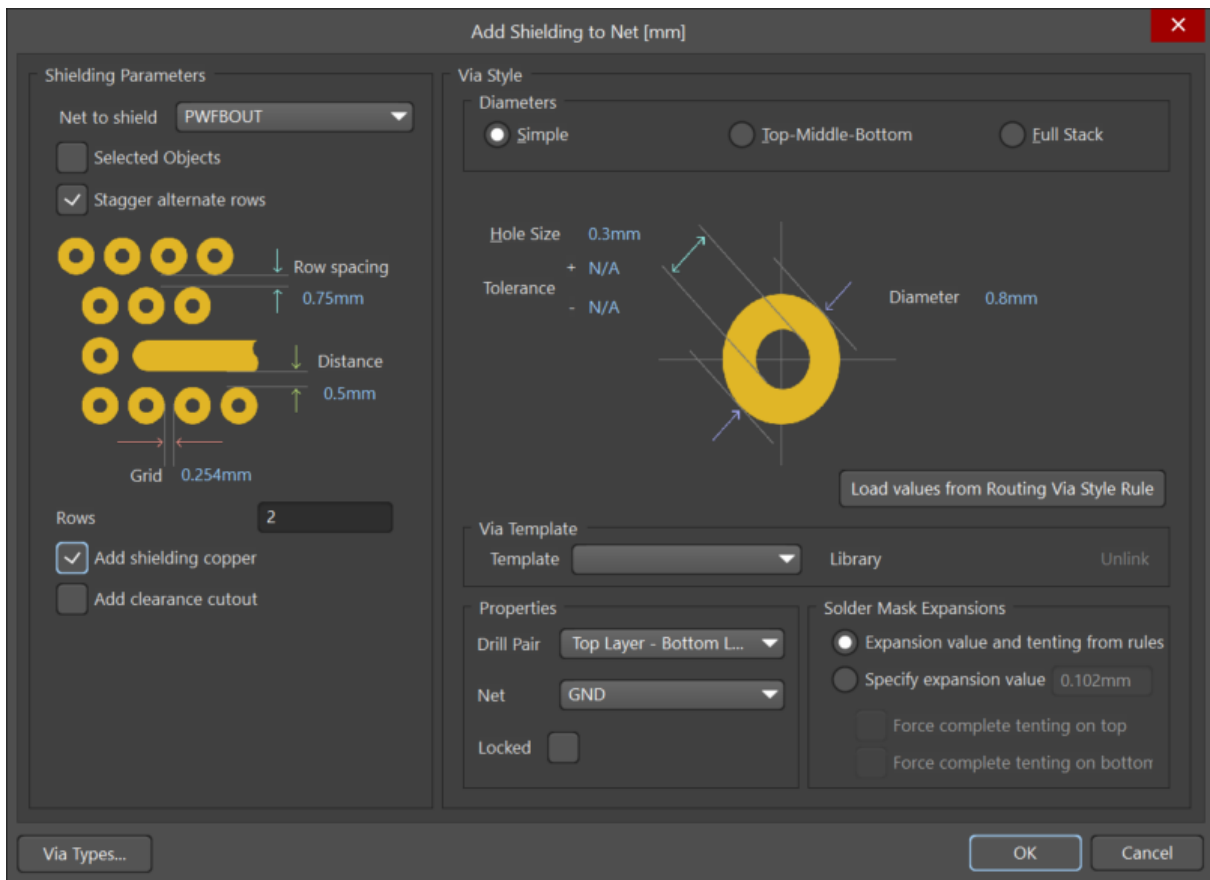

Figure 8. Via Shielding properties
24. Using Figure 8 below as a reference to change the values to the following: